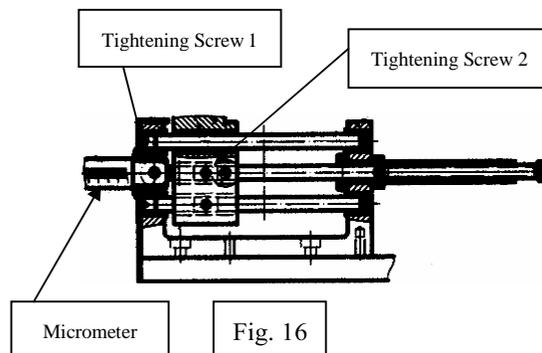

Fig. 16
6.1.5. Extended measurement for micrometer: See Fig. 16. When micrometer (0 – 25 mm) moves to 25 mm, loose screw 2 but keep sliding seat fixed, turn micrometer back to 0, tight screw 2 and that make micrometer measure in 25 – 50 mm range.